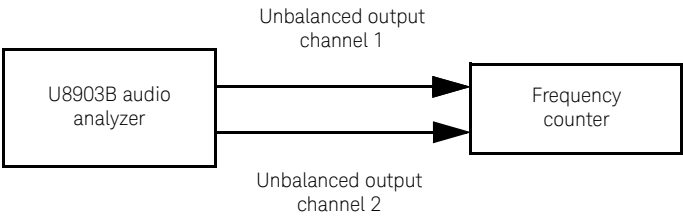

Figure 2-3 U8903B to frequency counter connections for frequency accuracy verification
- 1 Connect the U8903B Unbalanced output channel 1 to the frequency counter channel 1 and Unbalanced output channel 2 to the frequency counter channel 2 as shown in **Figure 2-3**. Preset both the U8903B and the frequency counter.